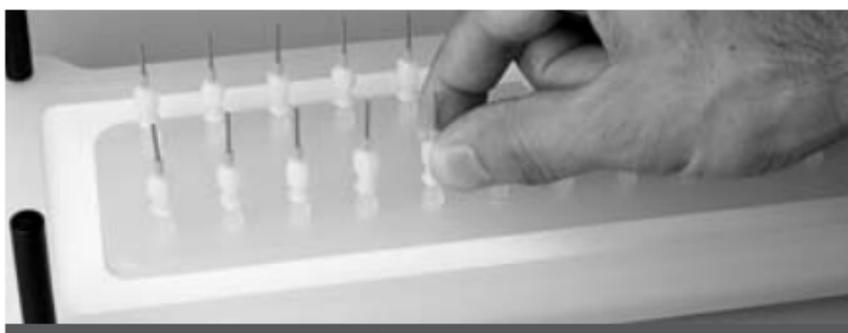

figure 2
- B. Attach the needles to the male luer connection fittings on the underside of the lid as shown in *(figure 2)*.